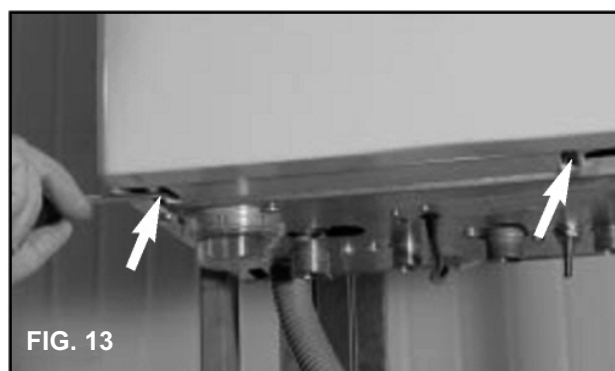

FIG. 13
- 1) Remove the two screws from the underside of the control panel (**fig 13**) and bring forward, pulling from the top.